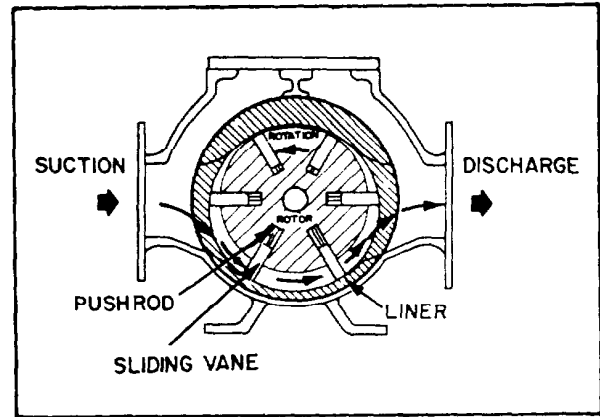

Figure 7-12.—Sliding vane pump.
**SLIDING VANE PUMPS.**—The sliding-vane pump (fig. 7-12) has a cylindrically bored housing with a suction inlet on one side and a discharge outlet on the other side. A rotor (smaller in diameter than the cylinder) is driven about an axis that is so placed above the center line of the cylinder as to provide minimum clearance between the rotor and cylinder at the top and maximum clearance at the bottom.